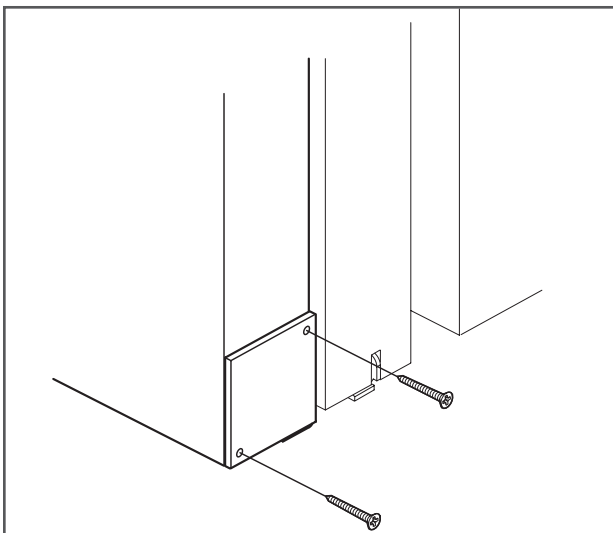

Figure 18
25. Install plate with two flat head phillips screws (provided) and a drill with a phillips bit (Figure 18).